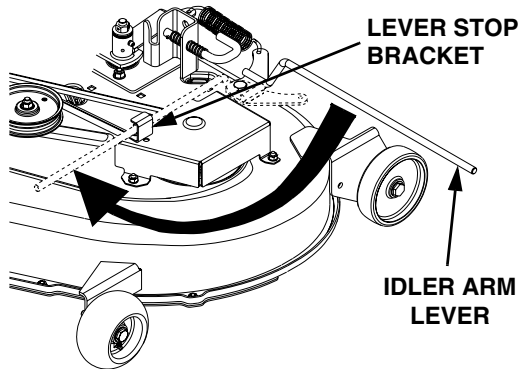

Figure 52
15. While holding the belt in position, rotate and engage the deck idler arm lever into its stop bracket to provide tension on the PTO belt (See Figure 52).